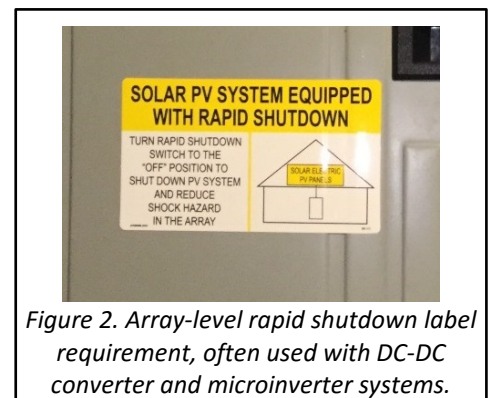

Figure 2. Array-level rapid shutdown label requirement, often used with DC-DC converter and microinverter systems.
- Black lettering, yellow background, minimum 3/8” capitalized letters, including a diagram of a building with a roof (figure 2).